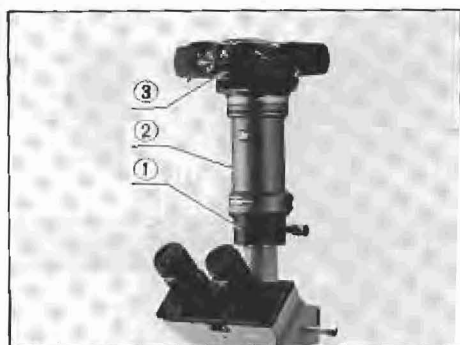

Fig. 28
- 1) Mount the photo eyepiece adapter PM-ADF ① (into which a choice of NFK photo eyepiece is inserted), Photomicro adapter (MOM-L) ② and OM camera back ③ on the photo tube in this order. (Fig. 28)